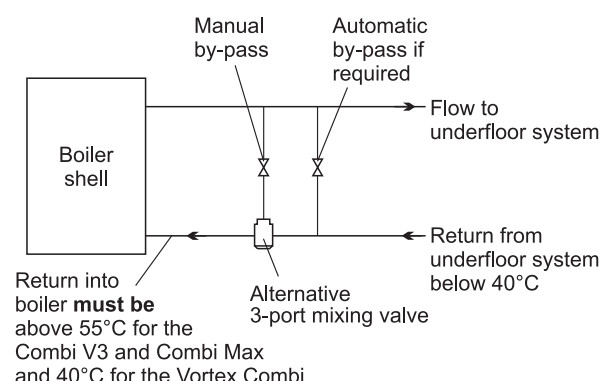

Fig. 17 - Underfloor system
- 4 The system design pressure (cold) should be between 0.5 and 1.0 bar. This pressure is equivalent to the maximum static head (see Fig. 17) in bar + 0.3 (1 bar = 10.2 metres of water).
See Fig. 17